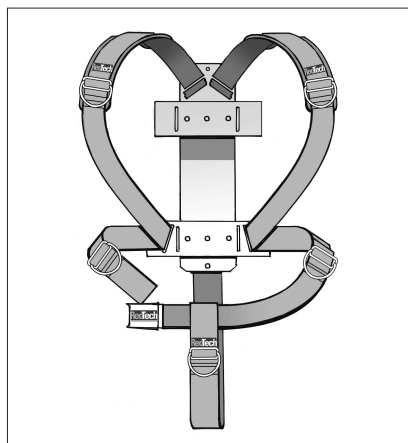

Figure 3: Harness, R.I.D.
- QSS without chest clasp as a standard for model **R.I.D.** (Figure 3)